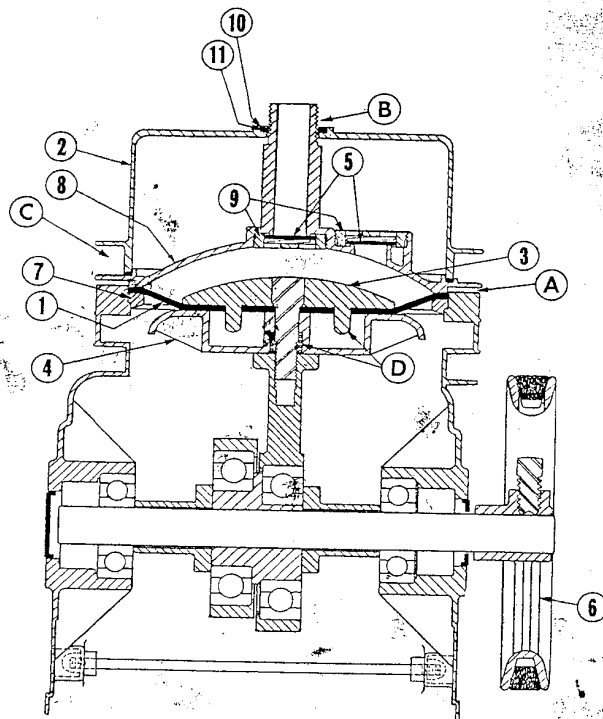

Figure 39—Air Pump Diagram
(a) **Diaphragms.** Inspect diaphragm (1, Figure 39) for possible rupture by removing hose and manifold which connects the two air domes (2). *Do not damage gasket between manifold and air domes.* Remove 6 screws holding air head in place and remove entire head at point "A."
To complete diaphragm installation turn pump by hand until pull plate (3, Figure 39) is at top center. Locate diaphragm in proper position and reassemble head. Be sure head is properly centered then tighten screws slightly and uniformly. Turn pump pulley (6) several revolutions by hand to assure proper seating of diaphragm on top of diaphragm ring (7) and then tighten screws securely. Reassemble manifold and hose.
*Note:* Locating pins have been provided in valve bridge (8) and air dome (2) to assure proper assembly. These pins should not be altered or moved.